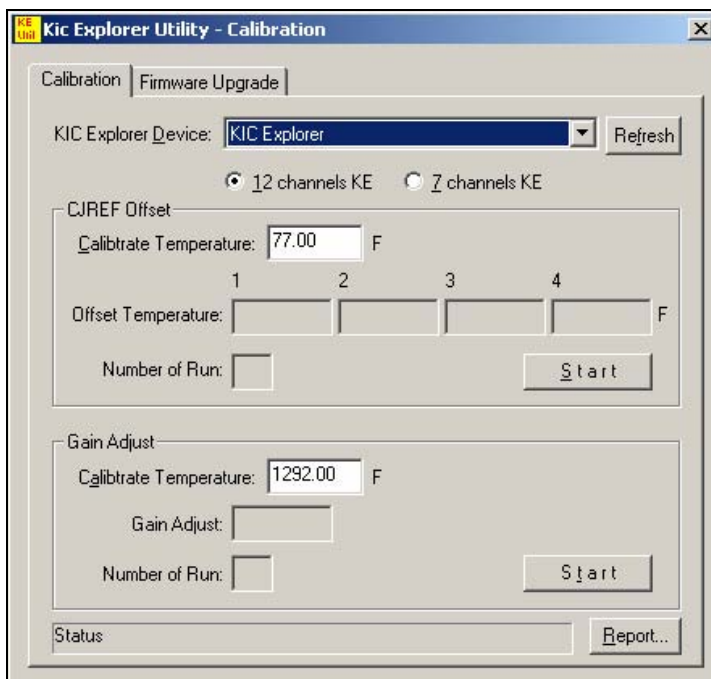

Figure 162
If your *KIC Explorer* is on and connected the *KIC Explorer Utility* will display the *KIC USB* device name. If the *KIC Explorer Device* field is blank then no device is detected or the device is not displayed, in which case select the *Refresh* button. See Figure 162.
2. Open the *KIC Explorer Utility* software program or if already open select the Refresh button. . See Figure 162.